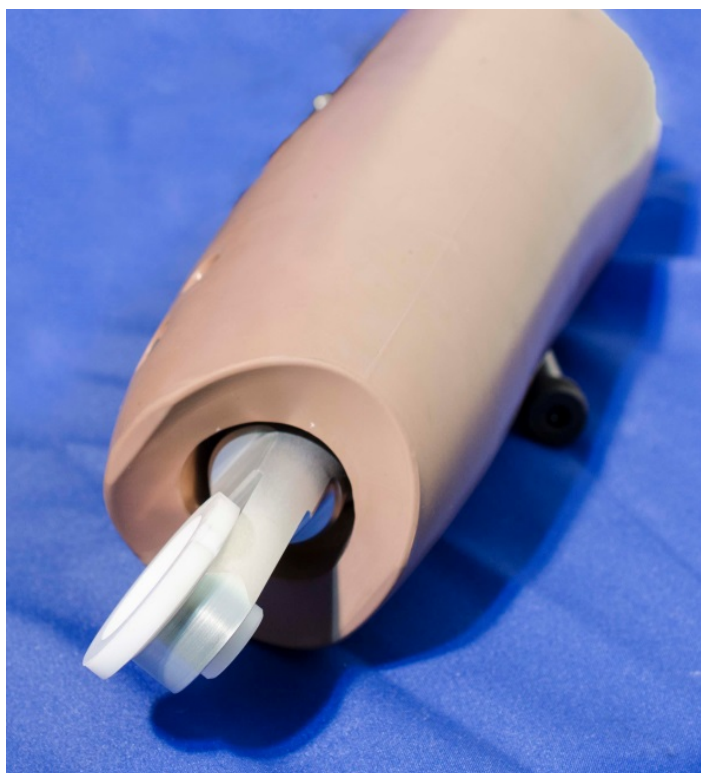

Figure 13-8. Insert upper arm and elbow pivot bushing into upper arm
13.2.2.4 Insert the Upper Arm and Elbow Pivot Bushing (472-6590) into the upper arm lower section hole located on the surface of the arm nearest the body (Figure 13-8).